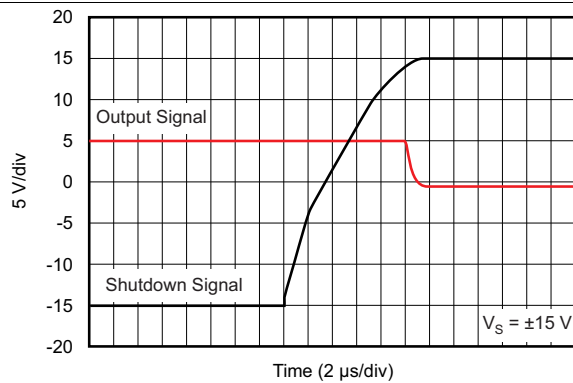

Figure 39. Turnoff Transient
(1) When disabled, the output assumes a high-impedance state.
(2) See Typical Characteristics curves (Figure 39 through Figure 41).
The shutdown (enable) function of the OPA211 is referenced to the positive supply voltage of the operational amplifier. A valid high disables the operational amplifier. A valid high is defined as  $(V+) - 0.35$  V of the positive supply applied to the shutdown pin. A valid low is defined as  $(V+) - 3$  V below the positive supply pin. For example, with  $V_{CC}$  at  $\pm 15$  V, the device is enabled at or below 12 V. The device is disabled at or above 14.65 V. If dual or split power supplies are used, make sure the valid high or valid low input signals are properly referred to the positive supply voltage. This pin must be connected to a valid high or low voltage or driven, and not left open-circuit. The enable and disable times are provided in the *Typical Characteristics* section (see Figure 39 through Figure 41). When disabled, the output assumes a high-impedance state.